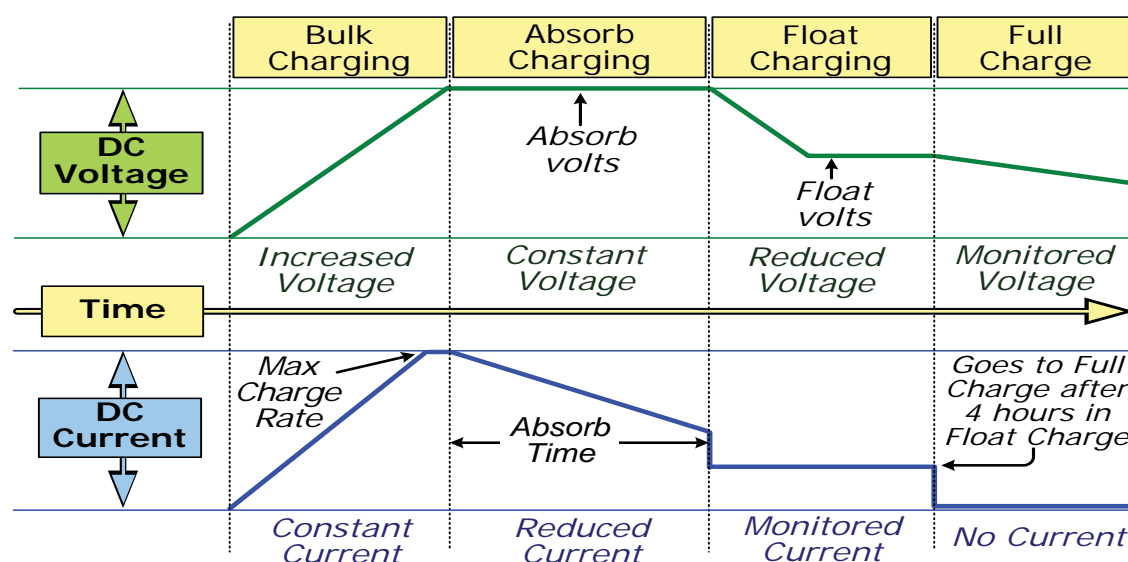

Figure 3-3, Automatic 4-Stage Charging Graph
The multi-stage charger in the MS Series can use up to five different charging stages to help monitor and keep the batteries healthy. The five stages include an automatic 4-stage charging process (see Figure 3-3): Bulk, Absorb, Float, and Full Charge; and a manual Equalization (EQ) charge stage. The automatic 4-stage charge process provides complete recharging and monitoring of the batteries without damage due to overcharging. The EQ stage (requires a remote display to enable) is used to stir up stratified electrolyte and to reverse any battery plate sulfation that may have occurred.